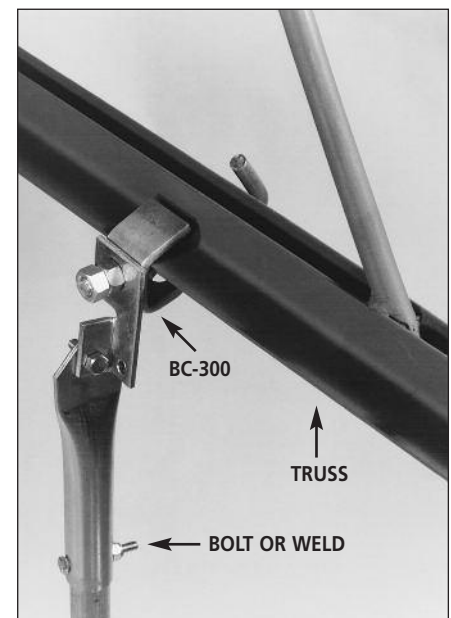

Figure 6
- **Figure 6** shows BC-300 beam clamp on a standard truss.